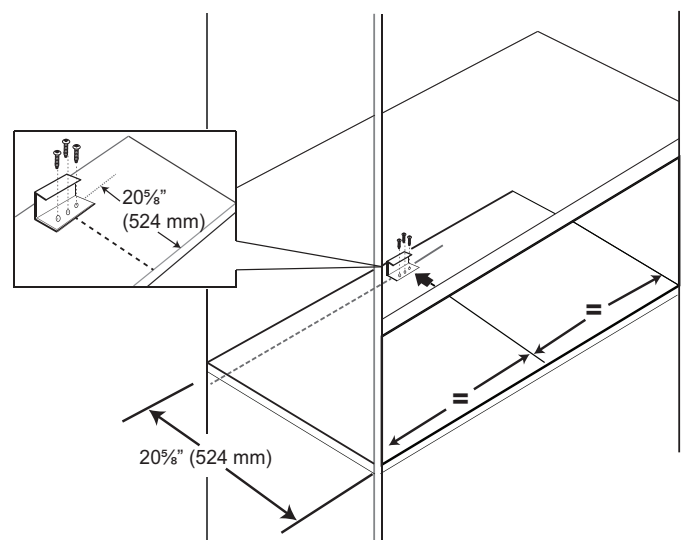

Figure 5: Anti-tip Bracket Location
3. Position the anti-tip bracket on the floor of cabinet opening $20\frac{5}{8}"$ (524 mm) from the cabinet edge and spaced equally centered for model type, as shown in Figure 5.
4. Secure with three (3) $\frac{3}{4}"$ (3.175 mm) Phillips head screws (included).